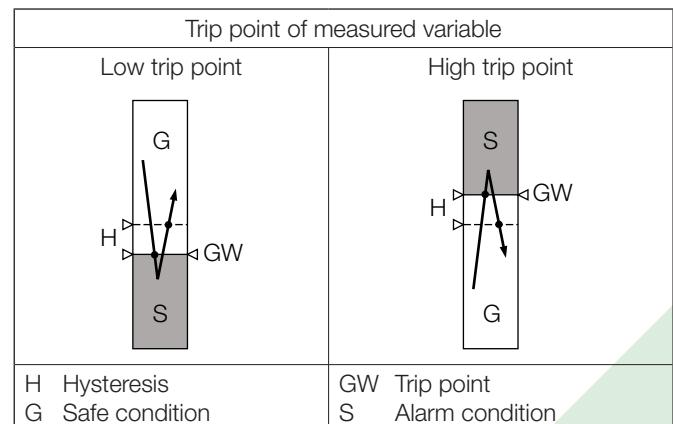

Fig. 3. Switching function, according to trip point type.
- Low trip point of measured variable (see Fig. 3, left)
- High trip point of measured variable (see Fig. 3, right))